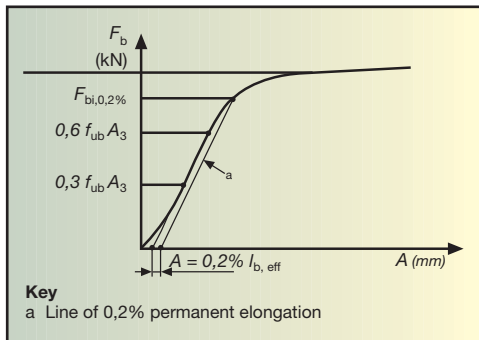

Figure 4: Elongation/bolt force curve.
- The elongation/ bolt force relationship (if required): figure 4 is used to determine 0.2 % strain.